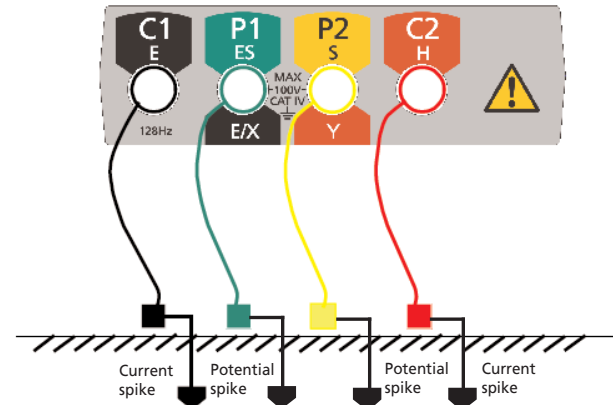

Figure 7: Connections for measuring four-terminal soil resistance
1. With the selector switch in the 'OFF' position, connect the instrument as shown in Figure 7.